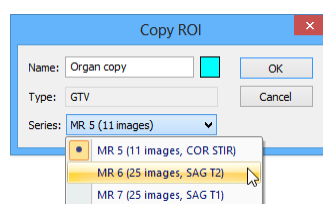

Figure 232 – Copy ROI dialog - selecting the target series
5. Select the target series from the **Series** drop-down menu, if desired (see Figure 232). It is only possible to select a target series that is registered with the source ROI series. The “source ROI” series is the default target series.